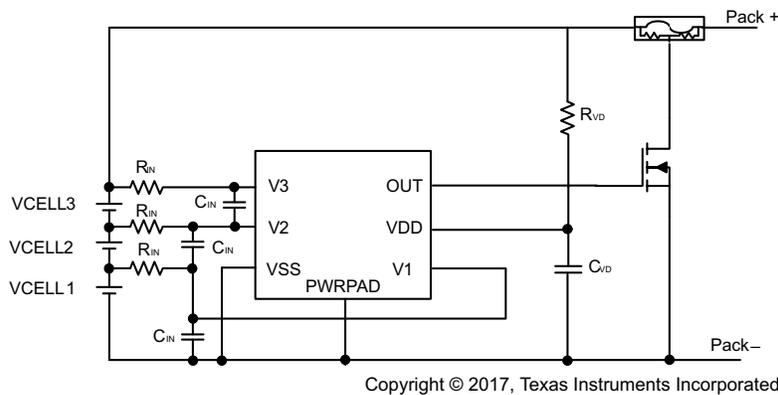

图 9-1. Application Configuration Schematic
Changes to the ranges stated in 表 9-1 impact the accuracy of the cell measurements. 图 9-1 shows each external component.
3. To connect to the device, follow the application configuration schematic (see 图 9-1).